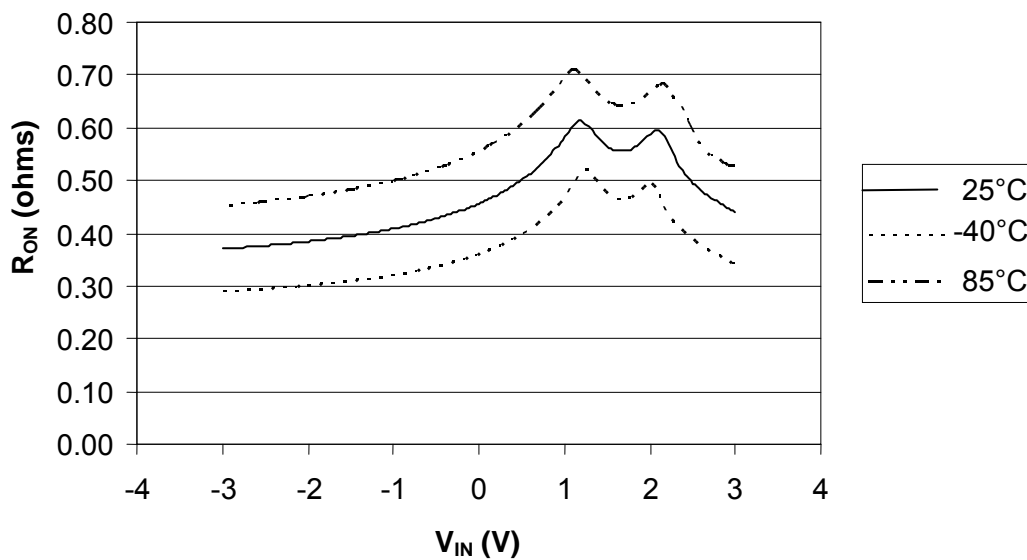

Figure 5.  $R_{ON}$  Audio Characterization ( $R_{ON}$  Audio R,  $V_{AUDIO}=2.7V$ )
| R ONAUDIO     | Audio Switch On Resistance (7)               | 2.7  | V L/R =-2V, 0V, 0.7V, V AUDIO -0.7V, V AUDIO I ON =-100mA, V BUS =0VFigure 5, Figure 13 |                                 | 0.5  | 1.0                | Ω    |